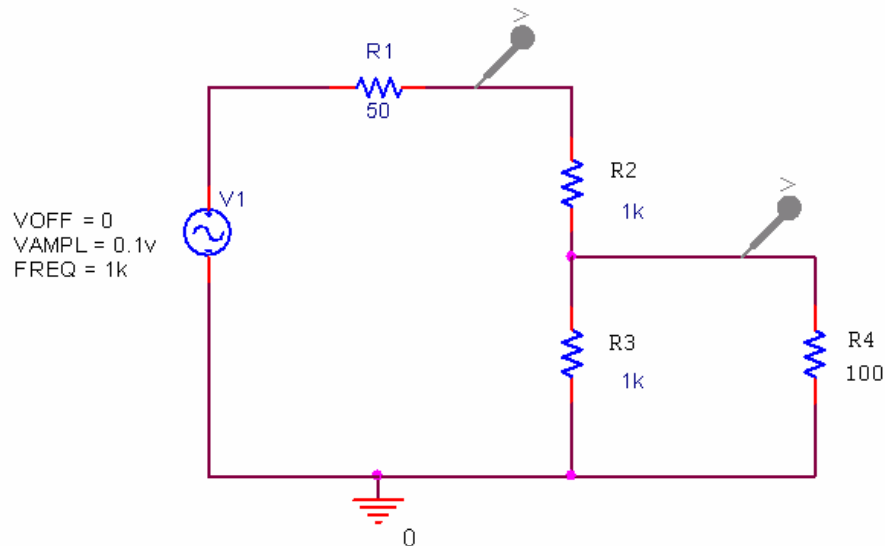

Figure B-2
- Begin by creating the circuit pictured in figure B-2 below in PSpice.